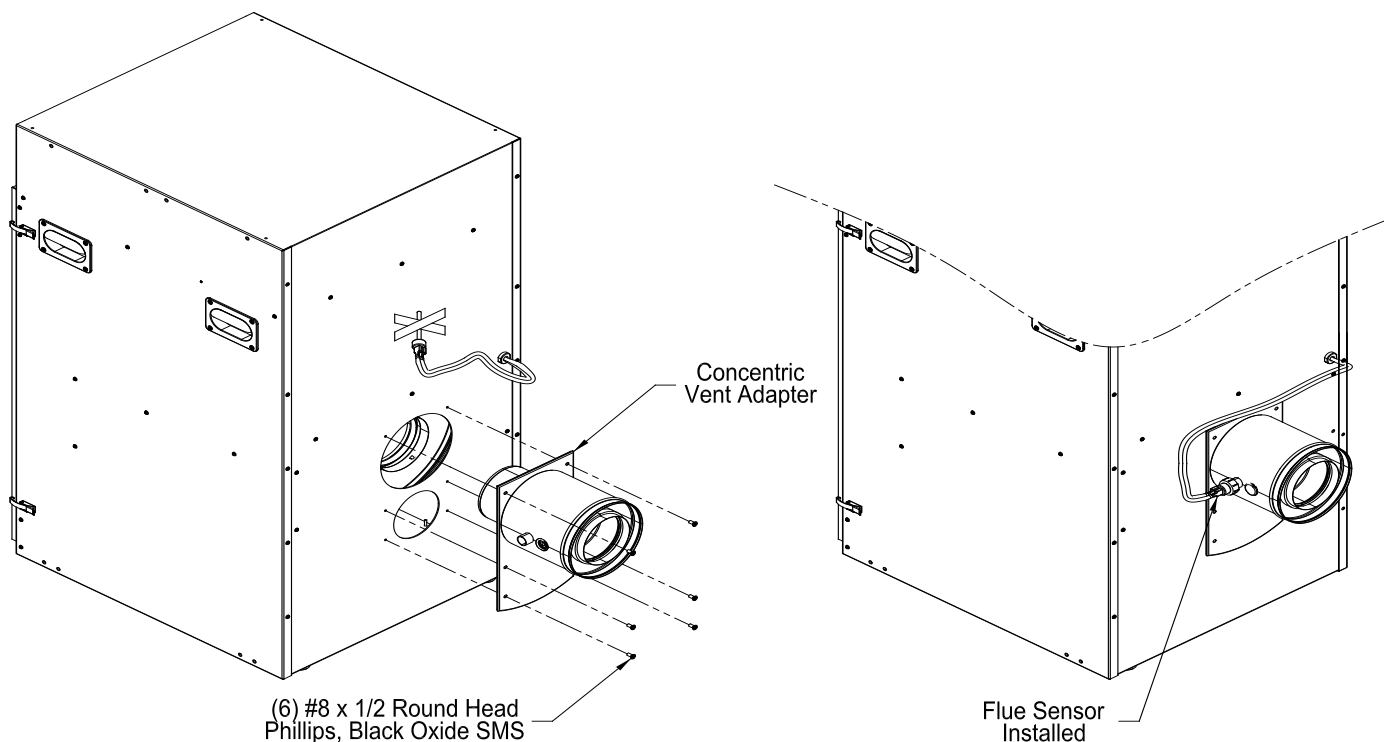

Figure 12: Field Installation of Boiler Concentric Vent Collar
5. Align collar plate clearance holes with rear/bottom panel engagement holes; then secure the collar to rear/bottom panel with six mounting screws. See Figure 12.
7. Remove the tape and push the sensor rubber plug into Concentric Vent Collar sensor port until the plug is securely engaged. See Figure 12.
- *** These sections have beaded male end and beaded female end. See Figure 12 for details.
14. Installation of the Boiler Concentric Vent Collar is covered in Section I above. See Figure 12.